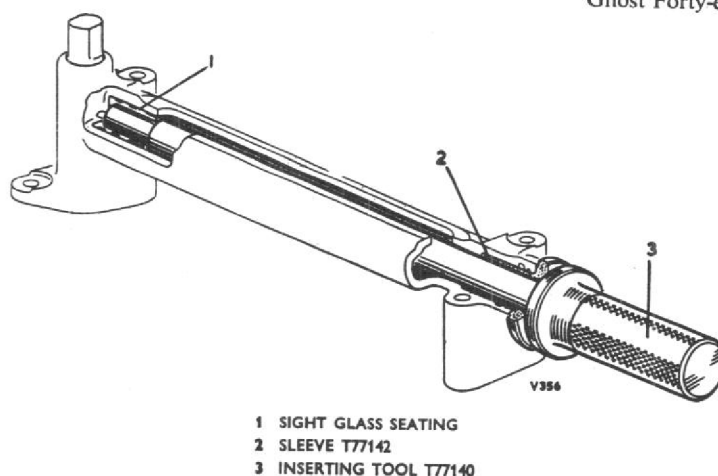

Fig. 22. Inserting the seating into the sight glass housing
- (4) Fit a new washer (Part No. N3636) and a new sealing ring (Part No. N5328) in the annulus of the plunger bore.
- (5) Apply a thin coating of jointing compound to the internal threads on the plunger.
- (6) Assemble the cut-off valve spring and the plunger to the housing.
- (7) Lightly load the spring by depressing the plunger and assemble the valve in the housing at the opposite end.
- (8) Screw the valve into the plunger.
- (9) Secure the plunger by inserting a new taper pin (Part No. SP28-E4) in the hole and peening the small end over to retain.
- (10) Position the guide sleeve T77142 in the sight glass bore of the housing.
- (11) Smear a little grease or tallow on a new sight glass seating (Part No. 94041) and, using inserting tool T77140, insert the seating into the bore (fig. 22).